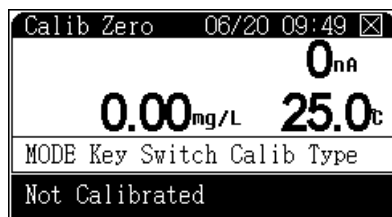

Figure 21 Zero Oxygen calibration
- 3 Select **Calib Zero**. Press **[Enter]** to select Zero Point Calibration as shown in Figure 21. During calibration, press **[Setup]** to set calibration parameters such as barometric pressure and salinity. Press **[Cancel]** to end calibration.